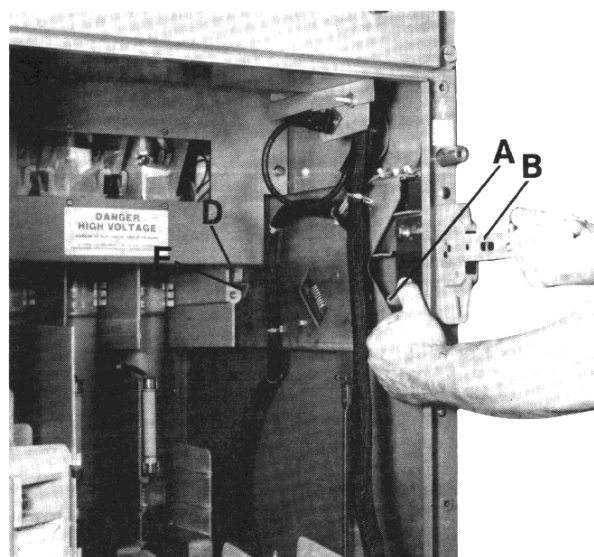

FIGURE 15
1. Press down on handle interlock lever (A) and hold while moving isolation switch handle (B) towards the "ON" position until it stops (See Figure 15).
4. Pull handle down to open isolation switch. The switch is fully open when the bail arm (D) is against its stop (E) (See Figure 15) and the switch blades are about an inch from inside face of viewing window in isolation switch barrier.